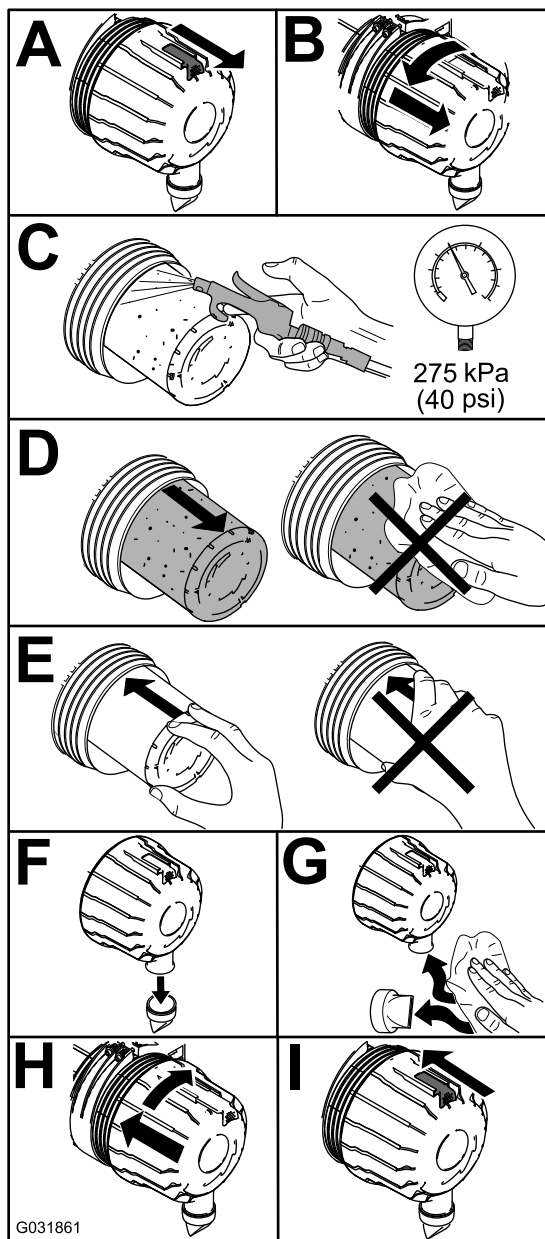

Figure 46
1. Replace the air cleaner (Figure 46).